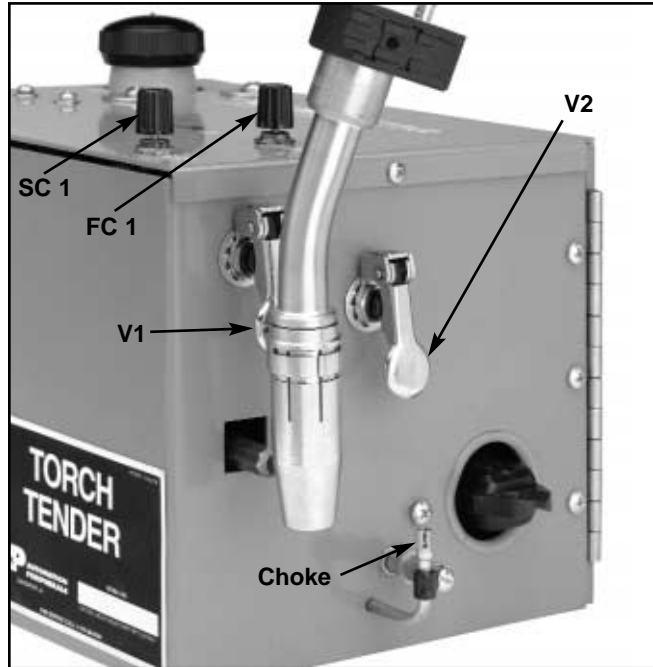

Figure 2 - Torch in position for cleaning by air hammer.
- Setting the Hammer Frequency The hammer frequency needed for proper cleaning varies depending on the type of welding, the size of the nozzle and the rigidity of the nozzle being cleaned. The intention is to cause maximum vibration of the nozzle without harming the torch, or changing the tool center point (TCP). To determine the range of stride frequency, manually operate hammer paddle, (V1), and adjust the striker adjustment knob, (SC1), from totally closed to fully open. (see Figure 2.)
When the torch needs cleaning, the robot should move the torch to a position which actuates valve V1, while holding the nozzle against the striker (see *Figure 2*). When valve V1 is actuated, the air hammer vibrates the nozzle at a frequency adjustable by varying the striker adjust, (SC1), to a frequency which proves most effective for removing the welding spatter from the torch without harming the torch or changing the tool center point, (TCP). To adequately clean the nozzle, the torch should be held in the cleaning position for three to five seconds.